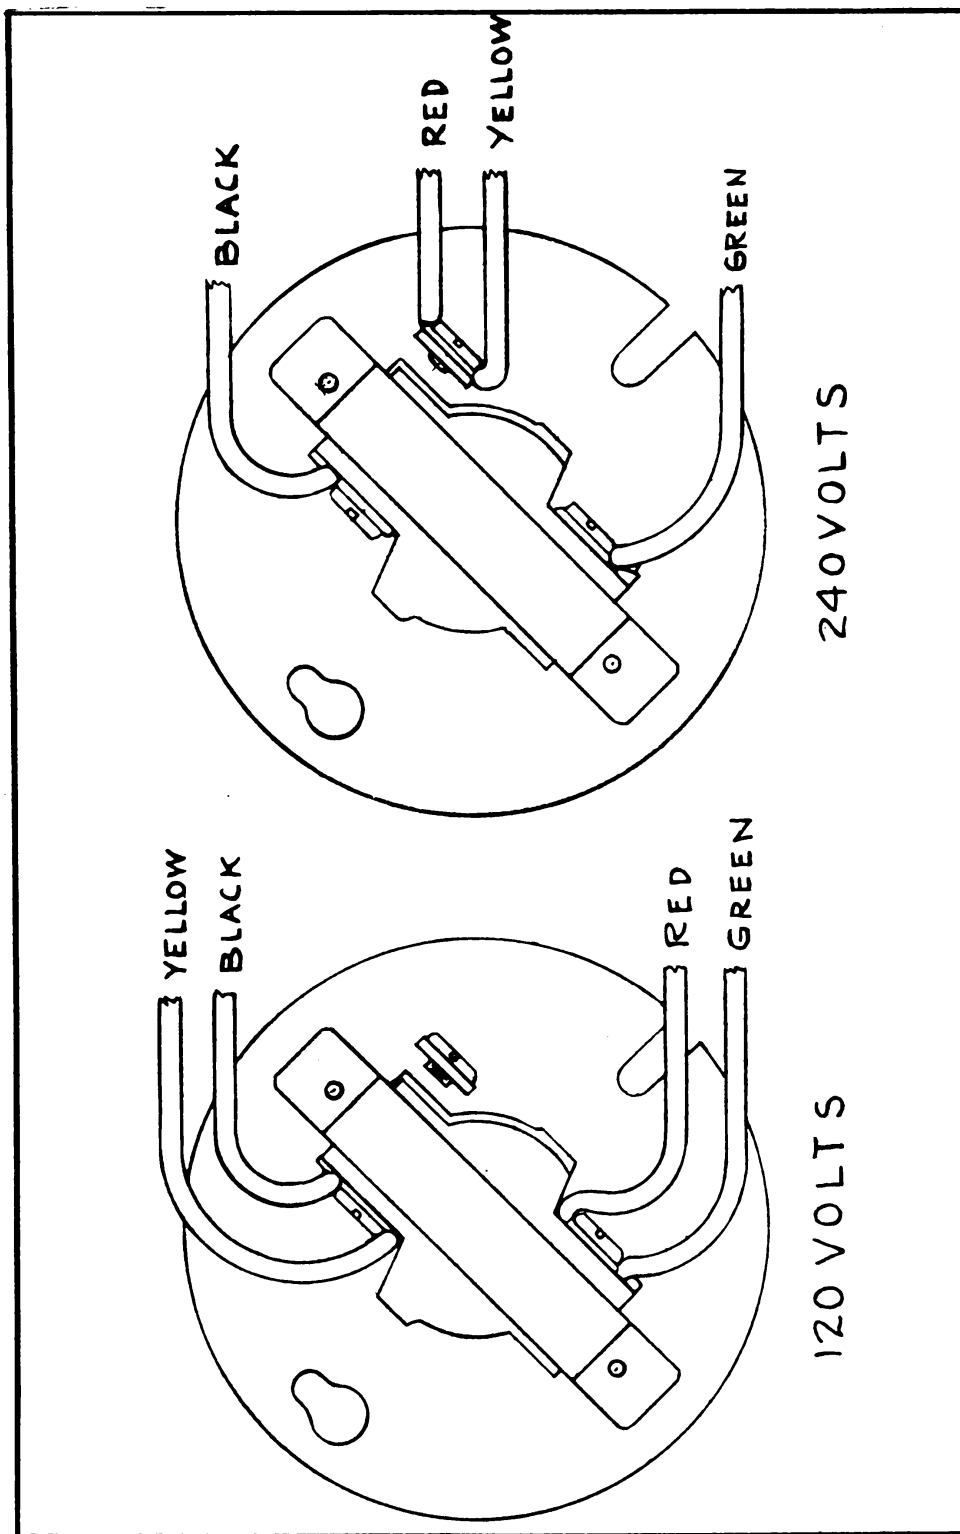

FIG. 5—POWER UNIT PE-214-A, VOLTAGE RECONNECTION DIAGRAM
b. *Generator Operation.*—CAUTION:—BE SURE GENERATOR IS CONNECTED FOR DESIRED VOLTAGE BEFORE OPERATING. (See Fig. 5, Page 14.)
(1) Be sure that the connections in the outlet box are properly made for the desired voltage according to diagram. (Fig. 5, Page 14.)
(2) Be sure that generator is not overloaded or short circuited for long periods of time. The generator will stand short periods of overload and may even be loaded continuously to 350 watts without damage, but greater overloads or short circuits for long periods of time will overheat and destroy the windings.
c. *Voltage Change Instructions.*—The windings of the generator are so arranged that by reconnection (See Fig. 5, Page 14) either 120 or 240 volts may be obtained. To change the voltage, first remove outlet cover (155) on the end of generator by loosening the two fastening screws (197). Then follow these directions: